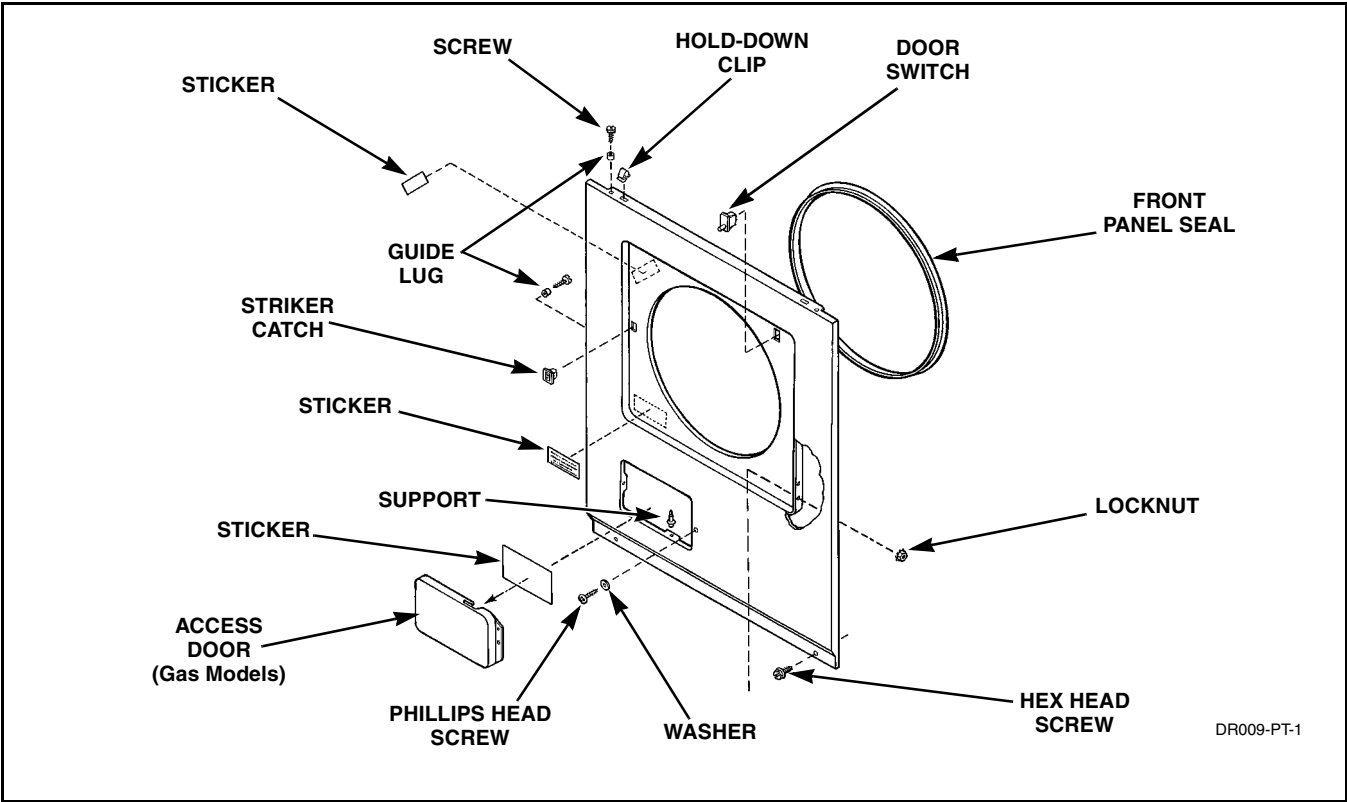

Figure 13
- i. Remove two screws from bottom edge of front panel. Refer to *Figure 13*.
- j. Swing bottom of panel away from dryer to disengage hold-down clips and guide lugs from cabinet top. Refer to *Figure 13*.
- h. Remove two screws from bottom edge of the front panel. Refer to *Figure 13*.
- i. Swing bottom of panel away from dryer to disengage hold-down clips and guide lugs from cabinet top. Refer to *Figure 13*.
- j. Remove two screws from bottom edge of front panel. Refer to *Figure 13*.
- k. Swing bottom of panel away from dryer to disengage hold-down clips and guide lugs from cabinet top. Refer to *Figure 13*.